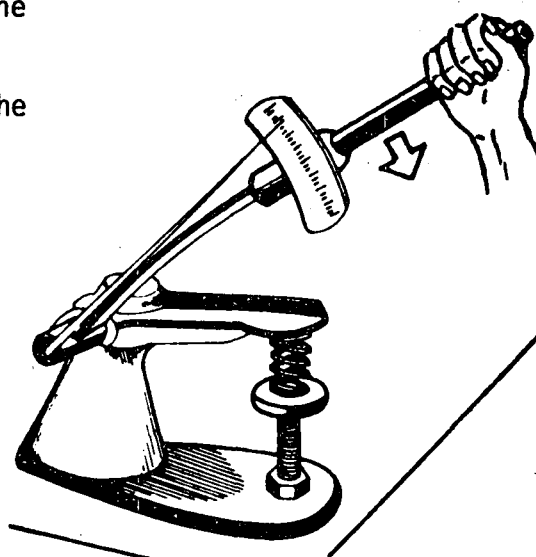

Fig. 2
- b) Compress the spring to the specified height and observe the reading on the scale (Figs. 2 and 3).